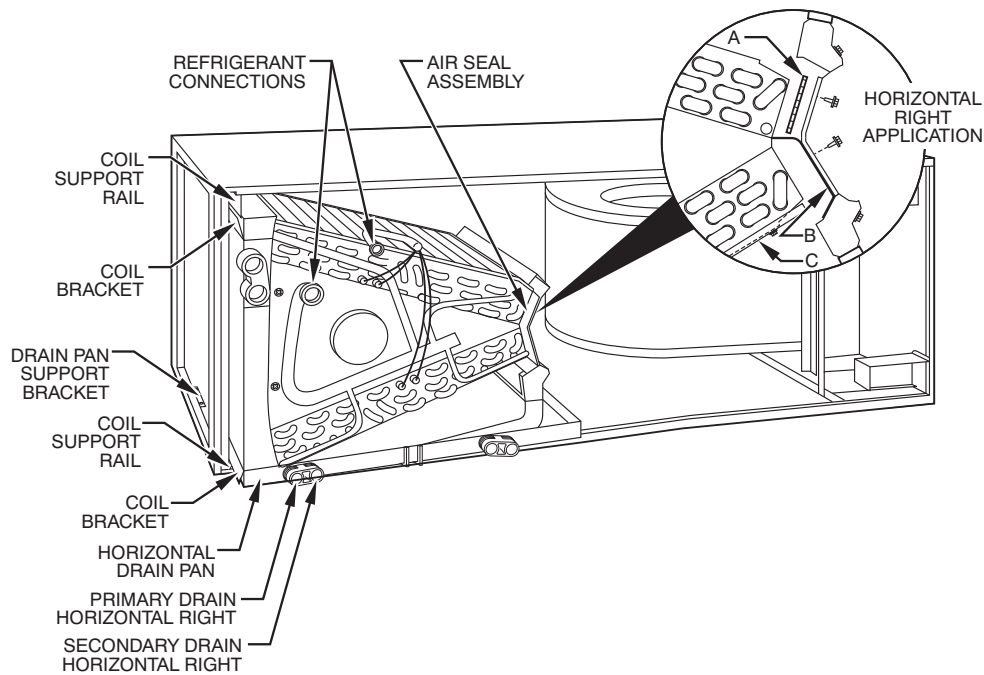

Fig. 7 – A-Coil in Horizontal-Right Application
- b. If fan coil is against wall, secure fan coil to wall stud using 1/8-in. (3mm) thick right-angle brackets. Attach brackets to fan coil using No. 10 self tapping screws and to wall stud using 5/16-in. (8mm) diameter lag screws. (See Fig. 7.)